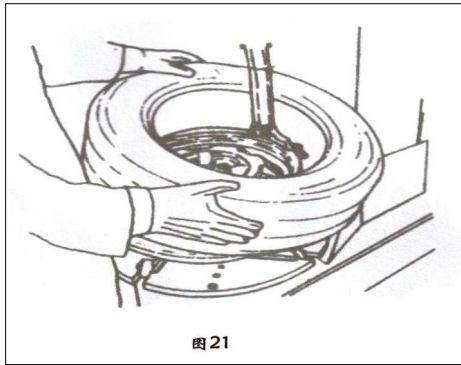

Fig. 22
- Spread the lubrication liquid or soap liquid around the lip. Tilt the tire against the rim and keep the front end upwards. Press down the hexangular shaft to move the demount arm to contact with the rim and lock. The left lip above the tail of the demount tool and the right lip will be positioned under the front end of the demount tool (FIG 22), Clockwise rotate the turntable to guide the bottom lip into the tire detaching slot.